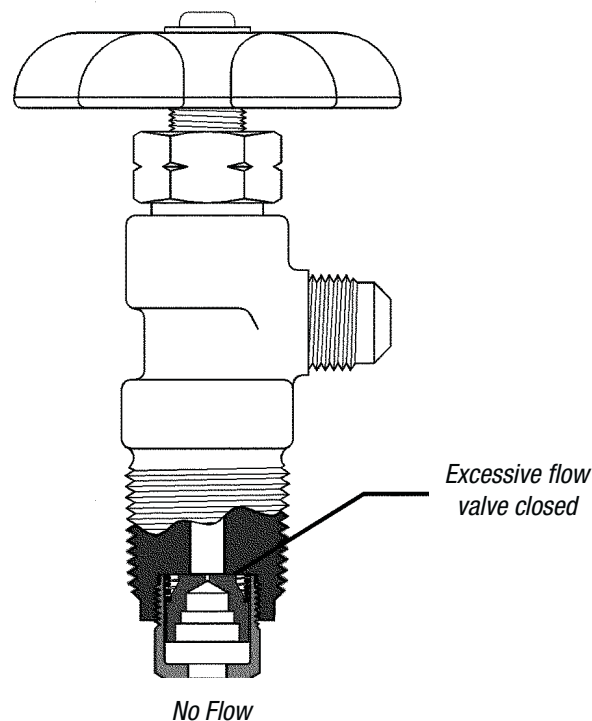

Fig. 2
- LPG flows back into the tank and not to the atmosphere (see Fig. 2)